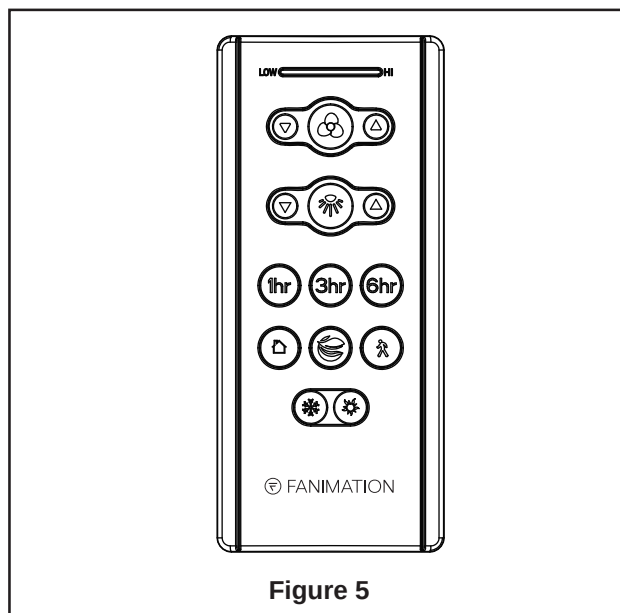

Figure 5
7. Remote functions: (Figure 5)